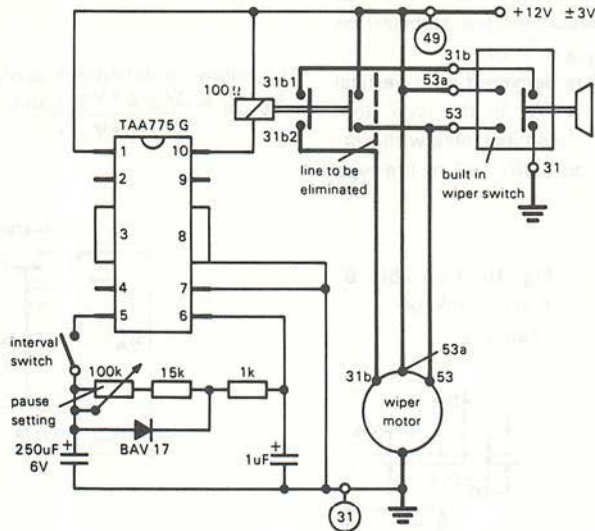

FIGURE 12 — CIRCUIT OF AN INTERVAL WIND-SHIELD WIPER USING TAA 775 G.
The interval wind-shield wiper circuit is shown in circuit Fig. 12. The pause duration between two consecutive wiping operations can be continuously adjusted.
**Characteristics of the circuit in Fig. 12**